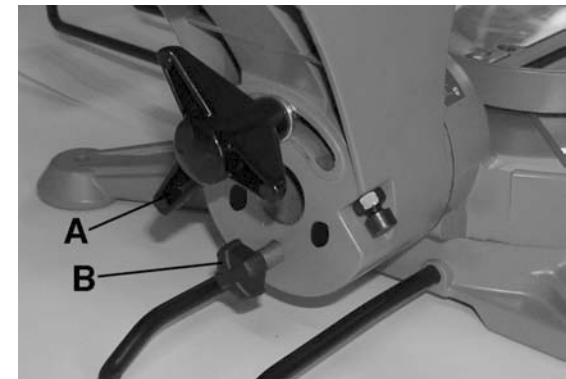

Figure 12
1. Loosen the bevel lock knob (A) Fig.12 and pull the positive stop adjustment knob (B) outwards as shown. At this point, the saw head can be inclined to any angle you desire. If you require a predetermined bevel angle of  $0^{\circ}$ , push the adjustment knob inwards and pivot the saw head until it stops at  $0^{\circ}$ . Once the desired bevel angle is obtained, it is very important that you retighten the bevel lock knob (A).